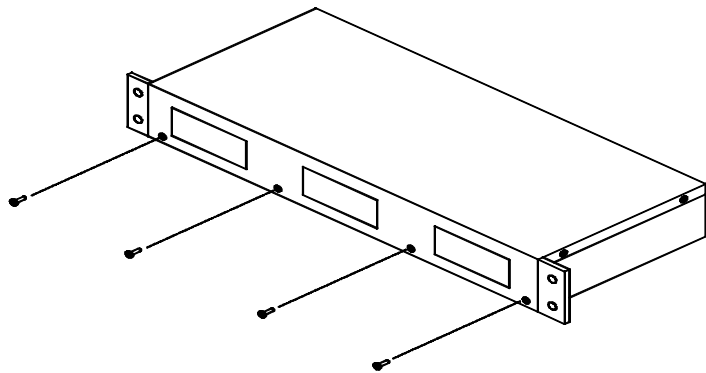

Figure 10. *Installing or Removing the RIM Chassis Front Panel*
6. Remove the four screws along the bottom edge of the front panel, then remove the panel (Figure 10).